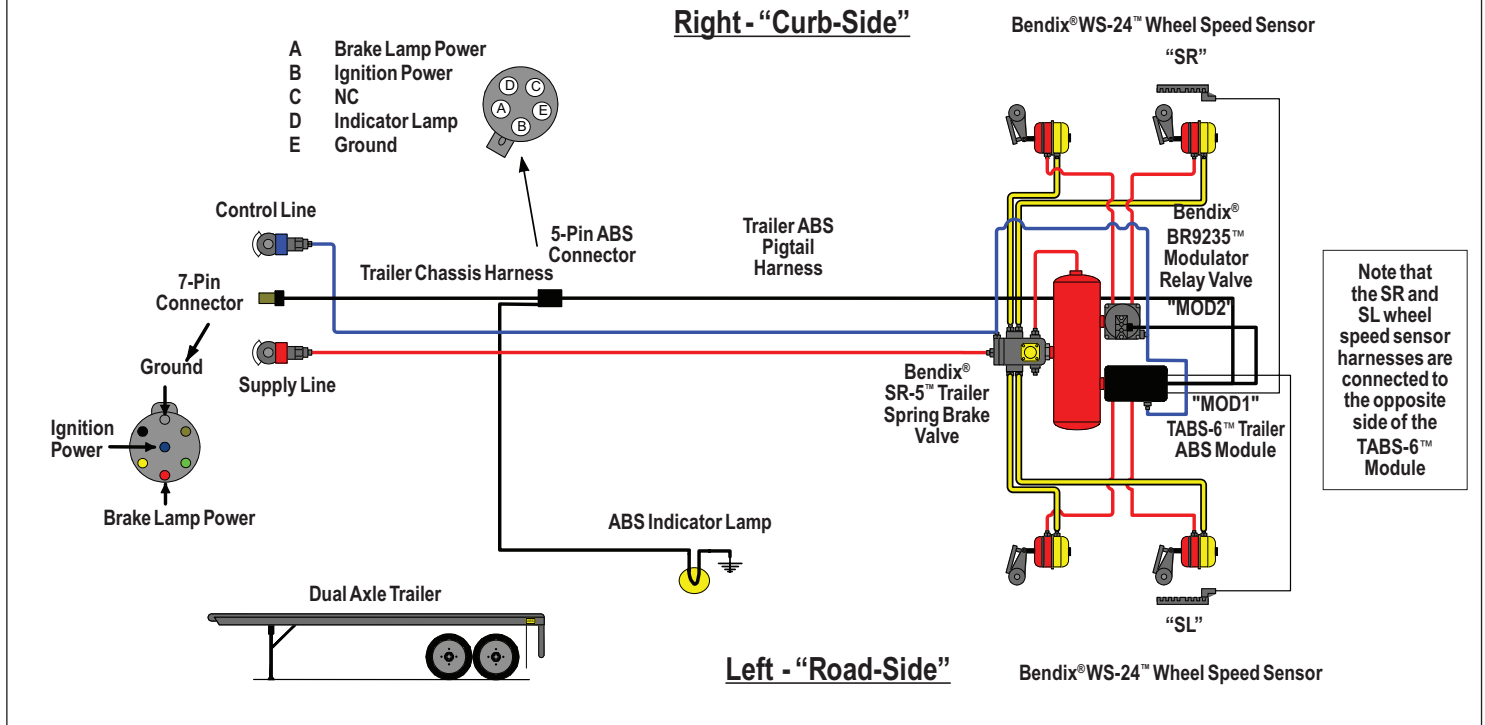

FIGURE 4 - TRAILER ABS 2S/2M SIDE CONTROL SYSTEM SCHEMATIC
2. Position and secure the ABS valves, ensuring that the remote modulator valve BR9235 and TABS-6 ECU valve are installed as per system drawings shown in Figures 4, 5 and 6. **Note: The side of the vehicle that the valves are installed on, will be the opposite to that of the original Bendix® MC-30™ installation for 2S/2M side and 4S/2M side.**